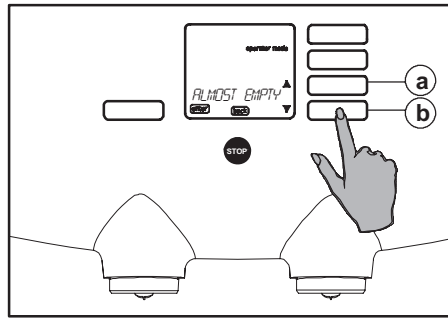

Fig. 66 "ALMOST EMPTY" selection menu
In the operator menu, from the "ALMOST EMPTY" selection menu (fig. 66), you can set the "ALMOST EMPTY" detection.
2. Use the scroll buttons  until the option "ALMOST EMPTY" appears in the display (fig. 66 a or b).